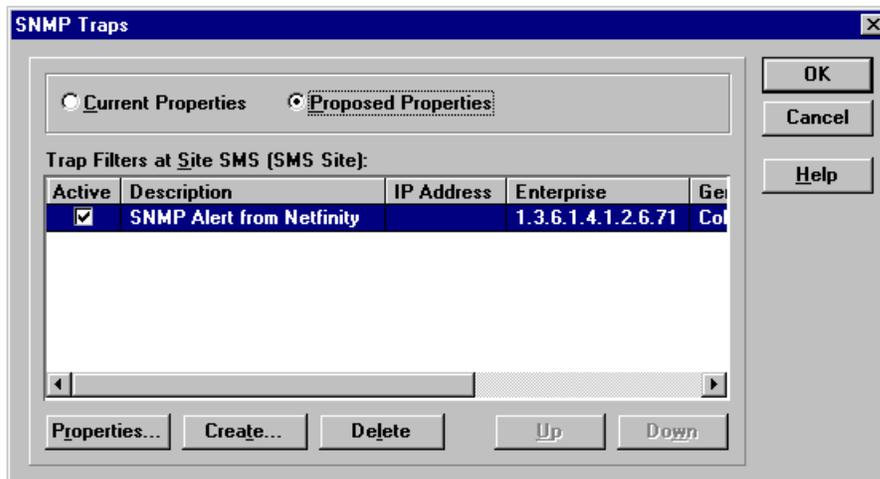

Figure 148. SNMP Trap Filter setup for an OID number
8. You will now see the proposed filter as seen in Figure 148.